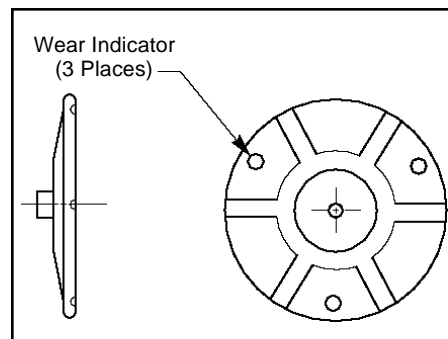

Fig. F1
**Note:** *The polishing jig used in these procedures is designed with three "wear indicators" on its polishing surface (Fig. F1). Each indicator is 0.002" deep. As polishing is done, the surface of the jig will be worn away. Uniform pressure across the jig's surface during polishing will result in the areas surrounding the "indicators" to wear.*